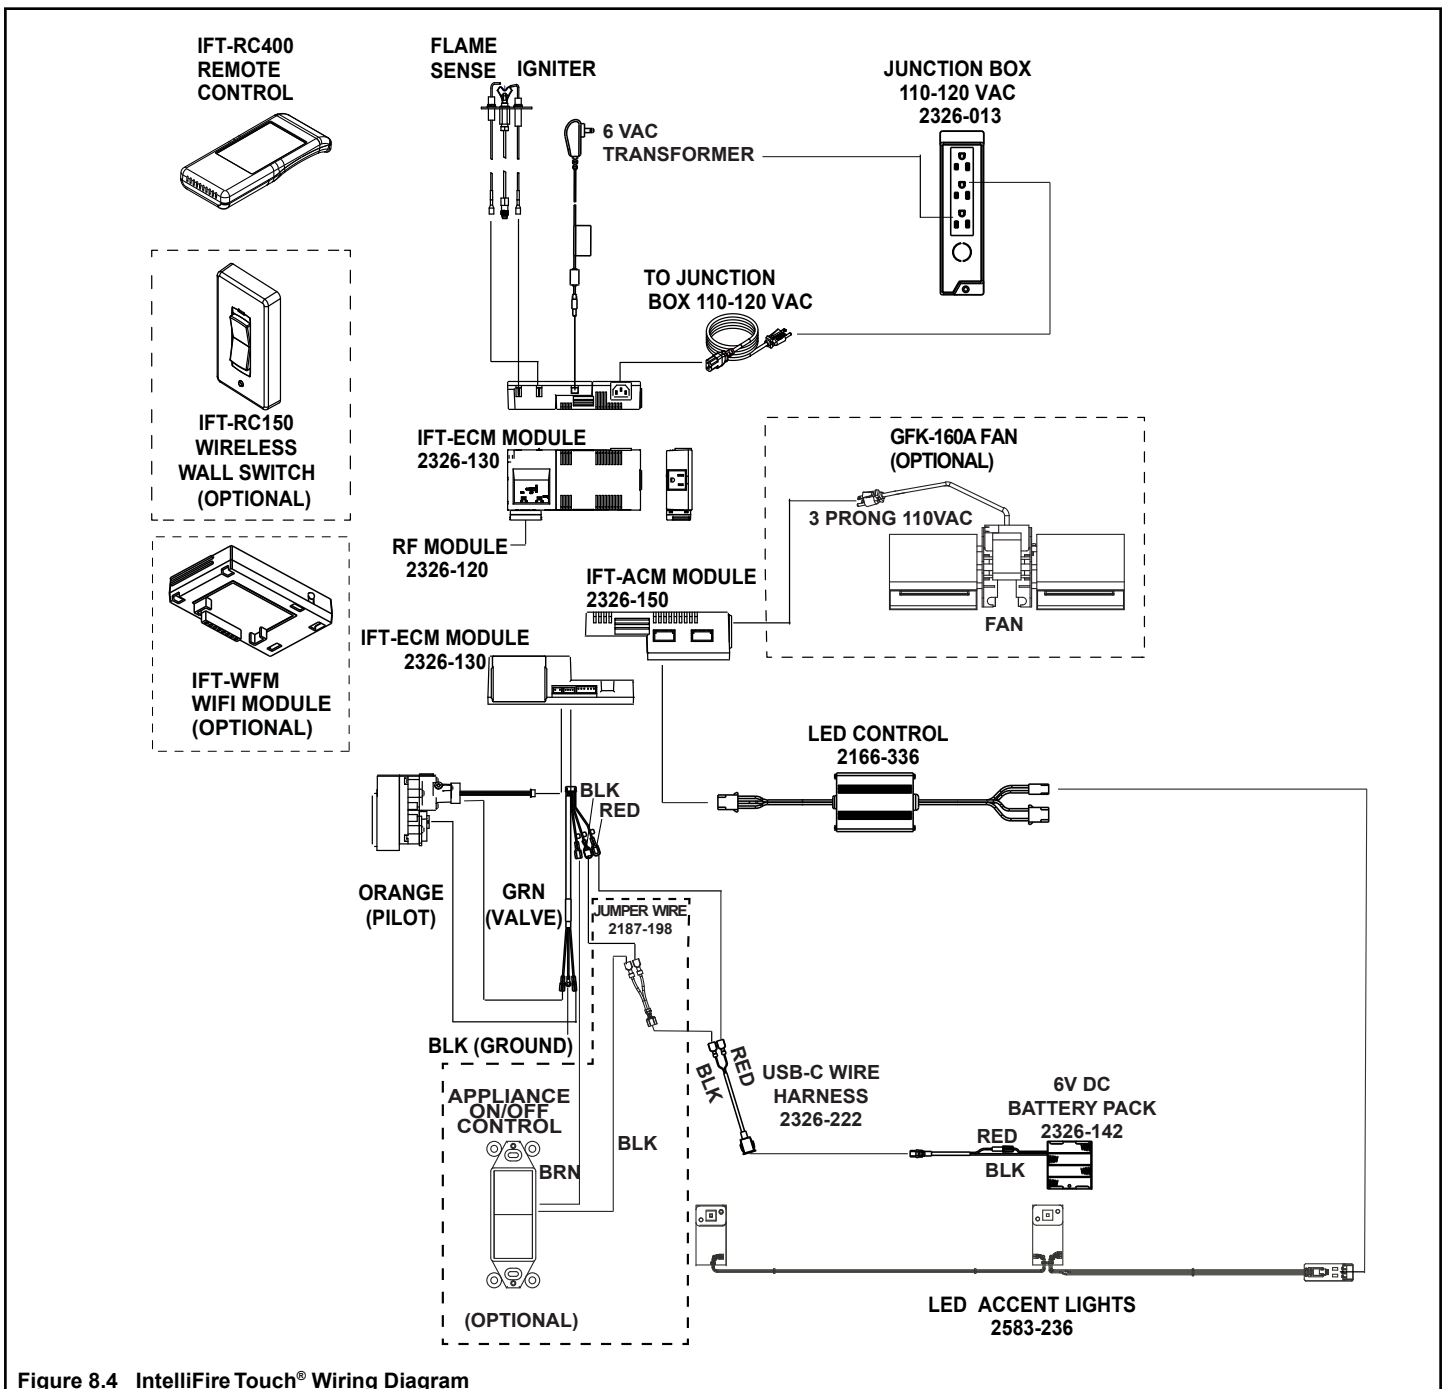

Figure 8.4 IntelliFire Touch® Wiring Diagram
- Refer to Figure 8.4, IntelliFire Touch Wiring Diagram.
- Install and wire the fan per instruction shipped with the fan. Figure 8.4 also shows additional details.